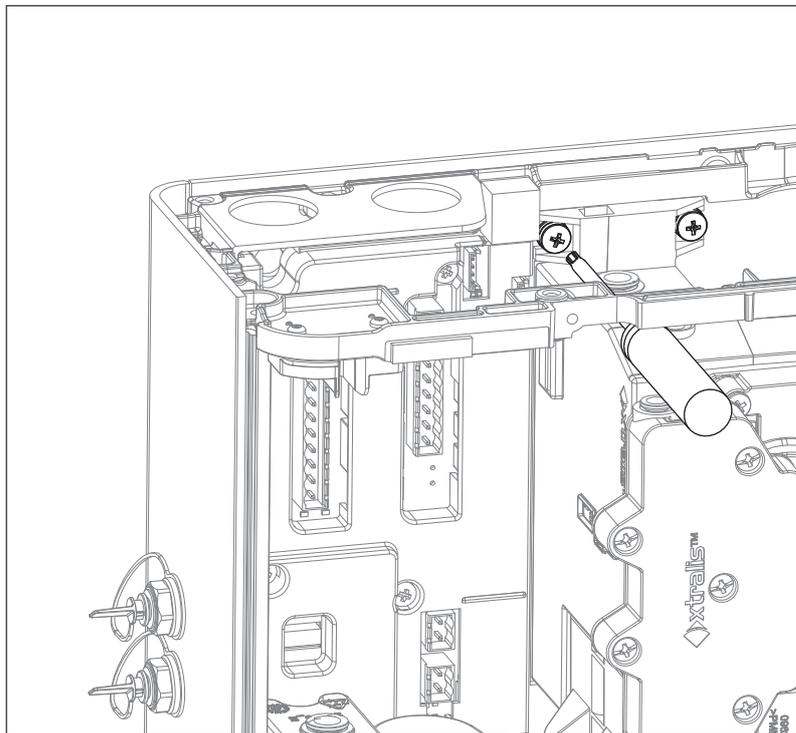
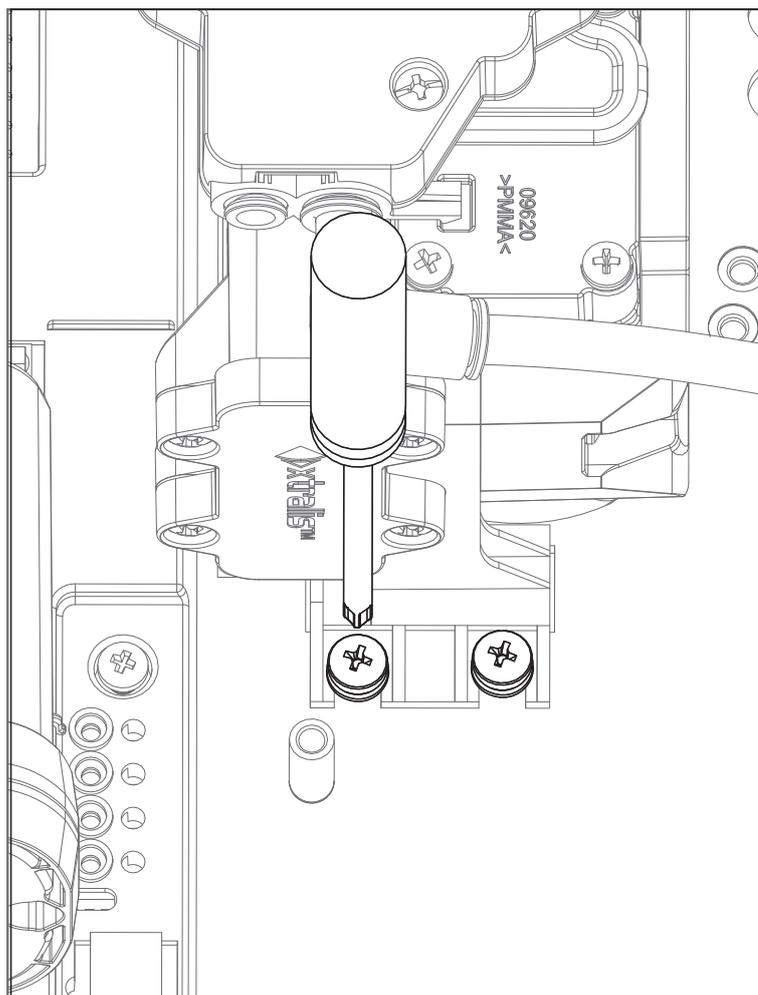

Figure 7-31: Remove Smoke Sensor Module retaining screws
Figure 7-32: Remove Smoke Sensor Module retaining screws
- Remove four Smoke Sensor Module retaining screws (Figure 7-31 and Figure 7-32). Two screws at the top and two screws at the bottom of the module.